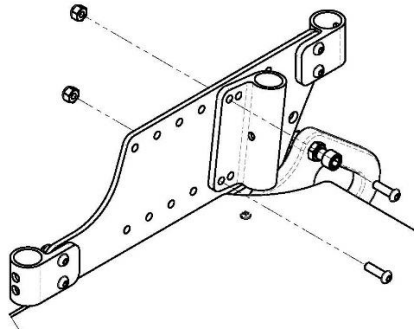

Figure 12.14: Seat Depth Attachment
1. The seat depth is adjusted by simply loosening and removing the two ¼-20 Button Head fasteners on each side (see Figure 12.14).